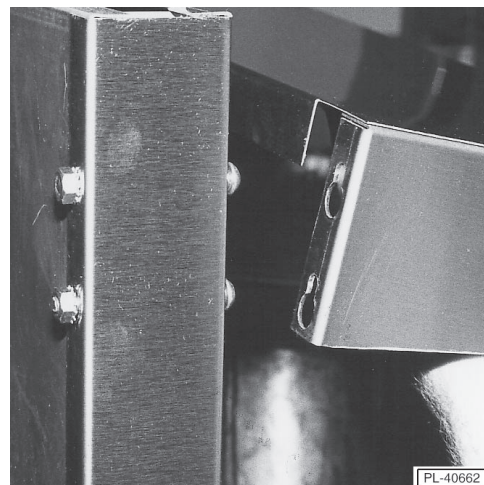

Fig. 11
8. Lift the shelf up and slide the shelf into position over the screw heads (Fig. 11).